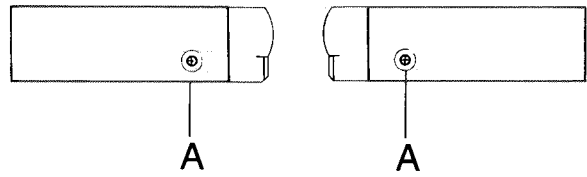

Fig. 1
■ Detaching the top cover (Figs. 1 and 2)
1. Remove the two fixing screws (A) on the right and left.
2. Remove the three screws (B) securing the cover from the rear.